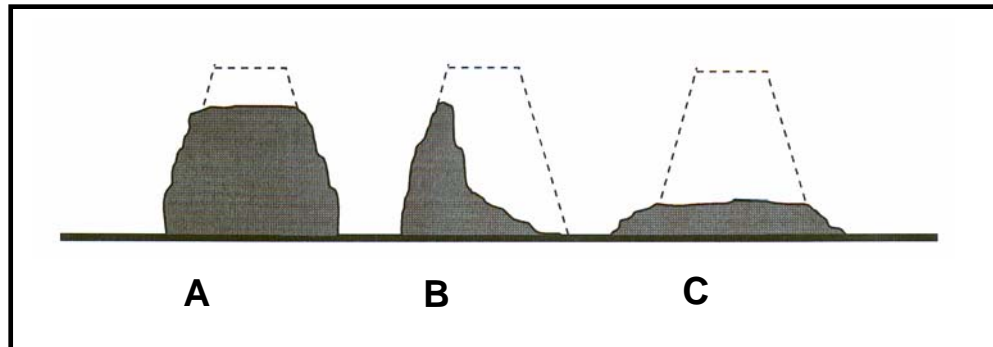

FIGURE 4.3.2 (3)
4.3.2 FIGURE 4.3.2 below shows the outcomes of three slump tests. Analyse the drawings and identify the type of slump in **A**, **B** and **C**.